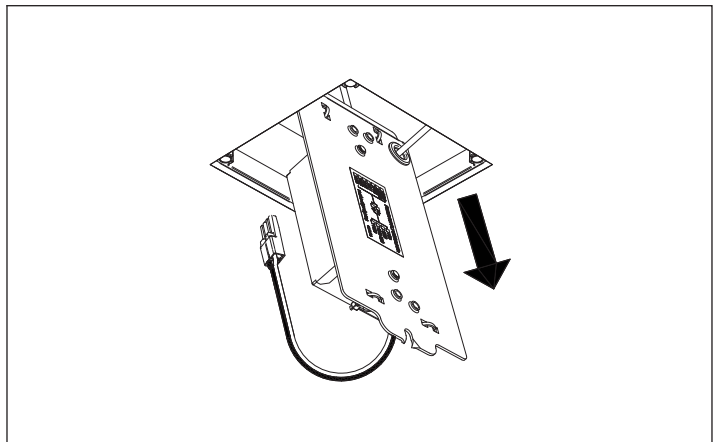

FIG 12.3 Pass Power Supply Module Through Aperture
Step 5 Pull Power Supply Module through aperture - **FIG 12.3**.